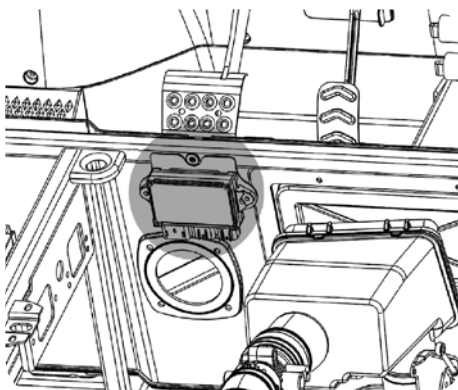

Figure 5-24
2. Open the mini fuse box cover. See Figure 5-24.